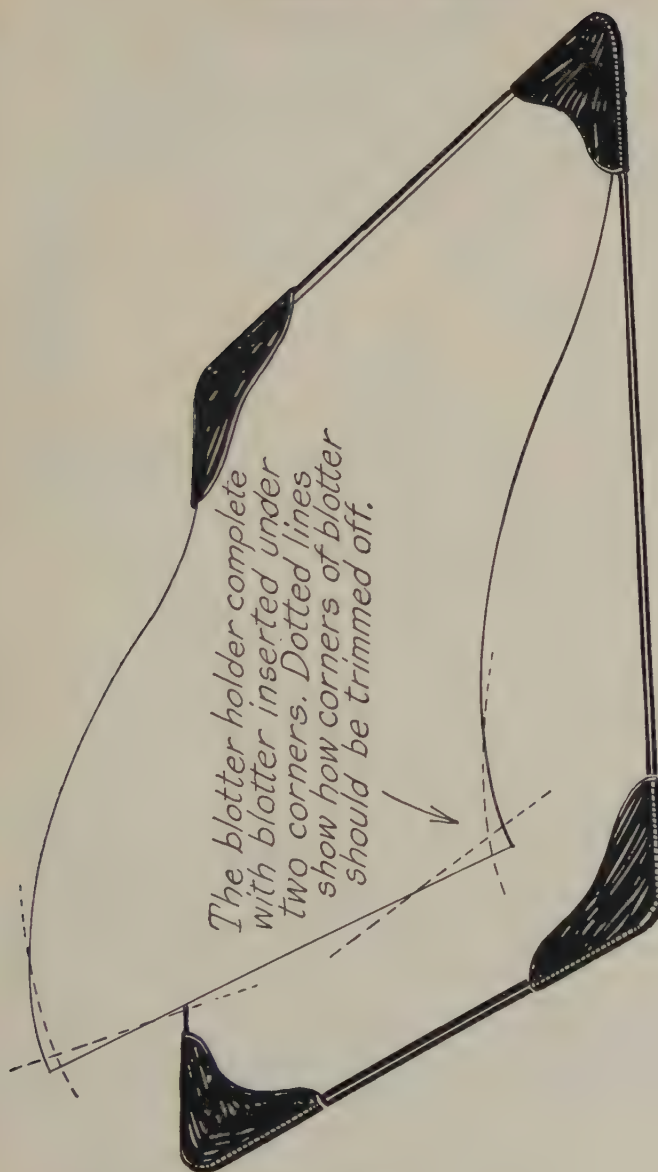

FIG. 109—COMPLETED DESK PAD, WITH DIAGRAM SHOWING PROPER METHOD OF CUTTING BLOTTER SHEET CORNERS
We intend to make a desk-blotter pad or holder like Fig. 109.
9. In fitting the sheets of blotting paper it is well to cut the four corners, like Fig. 109.